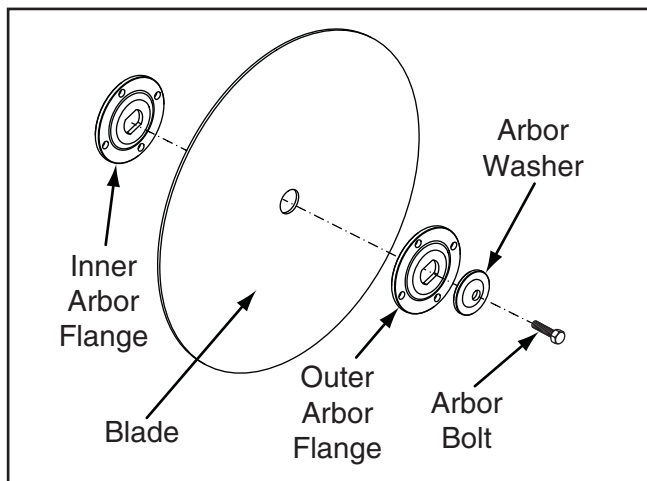

Figure 15. Blade installation order.
4. Remove the arbor bolt, the arbor washer, the outer arbor flange, and the blade (see **Figure 15**).